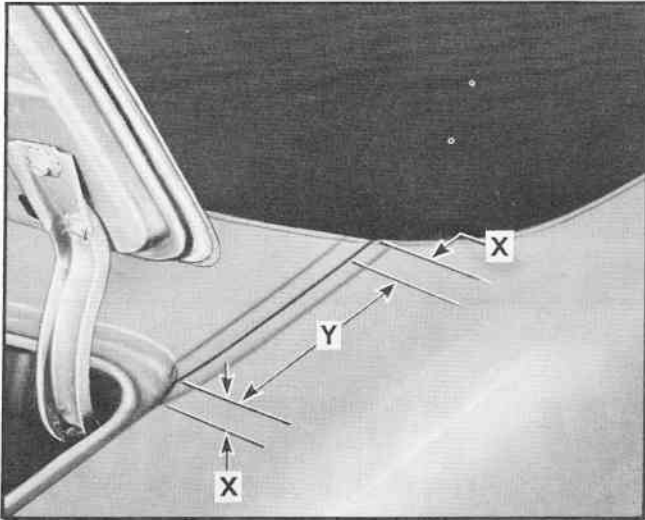

Fig. 1 Rear Quarter Outer Panel Weld
1. If one of the rear compartment front and shelf panel to rear quarter outer panel weld joints is affected, remove the back window and all moldings necessary to gain access to the entire weld joint as shown in Fig. 1.
3. Remove all of the solder fill from the joint as shown in Fig. 1.
5. Gas weld for a distance of one inch at each end of the joint shown by distance "X" in Fig. 1.
6. Braze the remaining weld joint as shown by distance "Y" in Fig. 1.